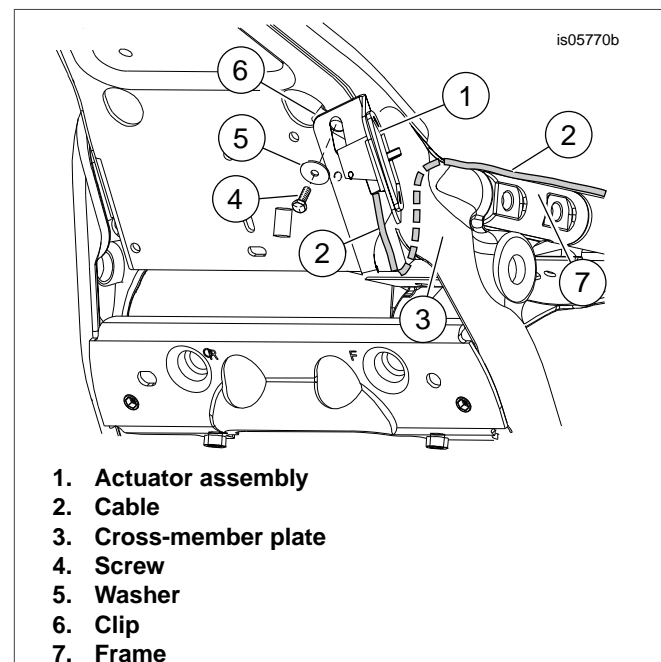

Figure 6. Install Actuator Assembly
7. **Models without Mid-Frame Air Deflector** See Figure 6. Slide the flat side of the actuator assembly (1) behind the spark plug wires. Verify the hook/bent tab on the bracket engages with the cross-member plate. Install screw (4) and washer (5). Tighten screw to 45-55 **in-lbs** (5.1-6.2 Nm).